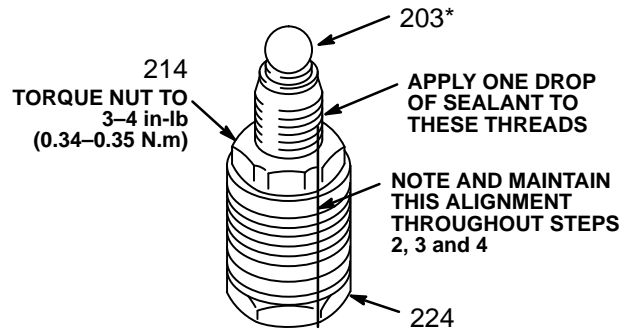

Fig 19-2
2. Tighten the packing retaining nut (214) against the gland (213) and torque to 3-4 in-lb (0.34 - 0.35 N.m). See Fig 19-2.
3. Apply 1 drop only of sealant, supplied with the repair kit, to the piston valve threads. Place the small ball (203*) on the valve. See Fig 19-2. Hand tighten the valve into the rod (223) just until the nut contacts the rod. Place the flats of the displacement rod in a vise.